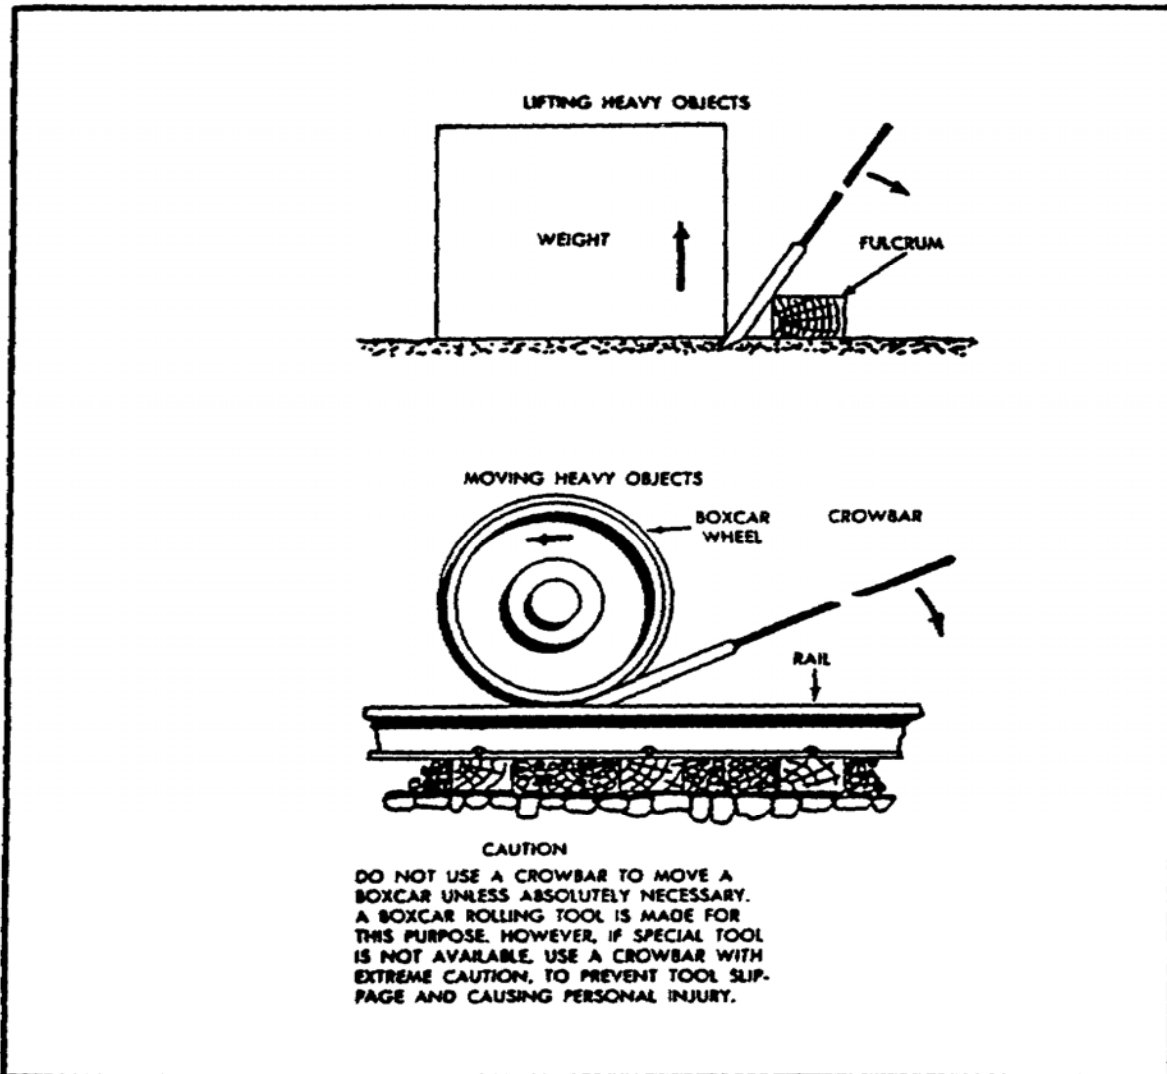

FIGURE 55. USING A CROWBAR.
(1) *Bars*. To use a crowbar, operate it as a simple lever (figure 55). It is mostly used in a position where the weight of the body is exerted downward on the narrow end of the bar. The pinch and wrecking bars are used in the same manner for prying and wrecking. The claw is used as you would a carpenter's claw hammer to remove nails and spikes. When prying, be careful that the bar does not slip and cause personal injury. Wrecking bars are exceptionally heavy and care must be taken to keep them from falling and striking someone. Do not use bars for extra heavy work, since they will bend.